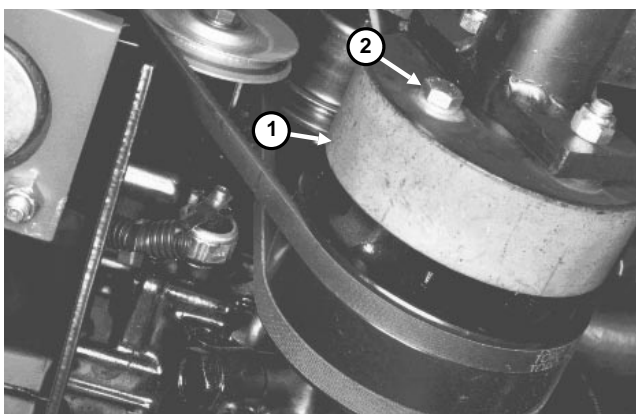

Figure 24c
3. Remove two capscrews securing transmission drive shaft coupler to engine crankshaft pulley (Fig. 24c). Do not disconnect drive shaft from transmission.